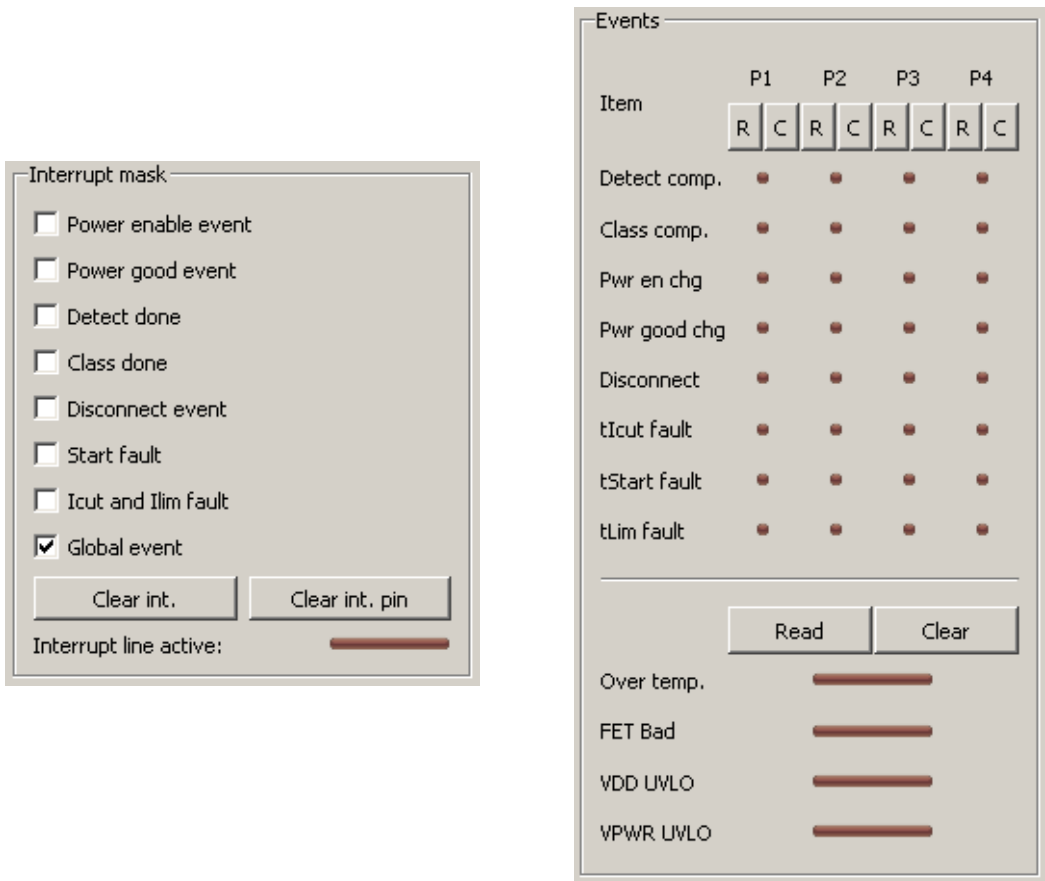

Figure 13. Interrupt Enable and Events Boxes
The Interrupt Enable box shown in Figure 13 specifies which events cause the Si3454 to generate an interrupt.
The Events box shown in Figure 13 displays the status of the interrupt line and the port events. The GUI events section indicates both global and port-specific events. Each events register consists of a pair of read-only (RO), and clear-on-read (CoR) registers with the same event bits. Reading the RO register obtains the bit values but does not affect the bits. Reading the CoR register obtains the values of the bits, and also clears the bits in both the RO and CoR registers. The indicators in the GUI Events section show the values from the RO register if the RO register is read by push of the “R” button or by polling.